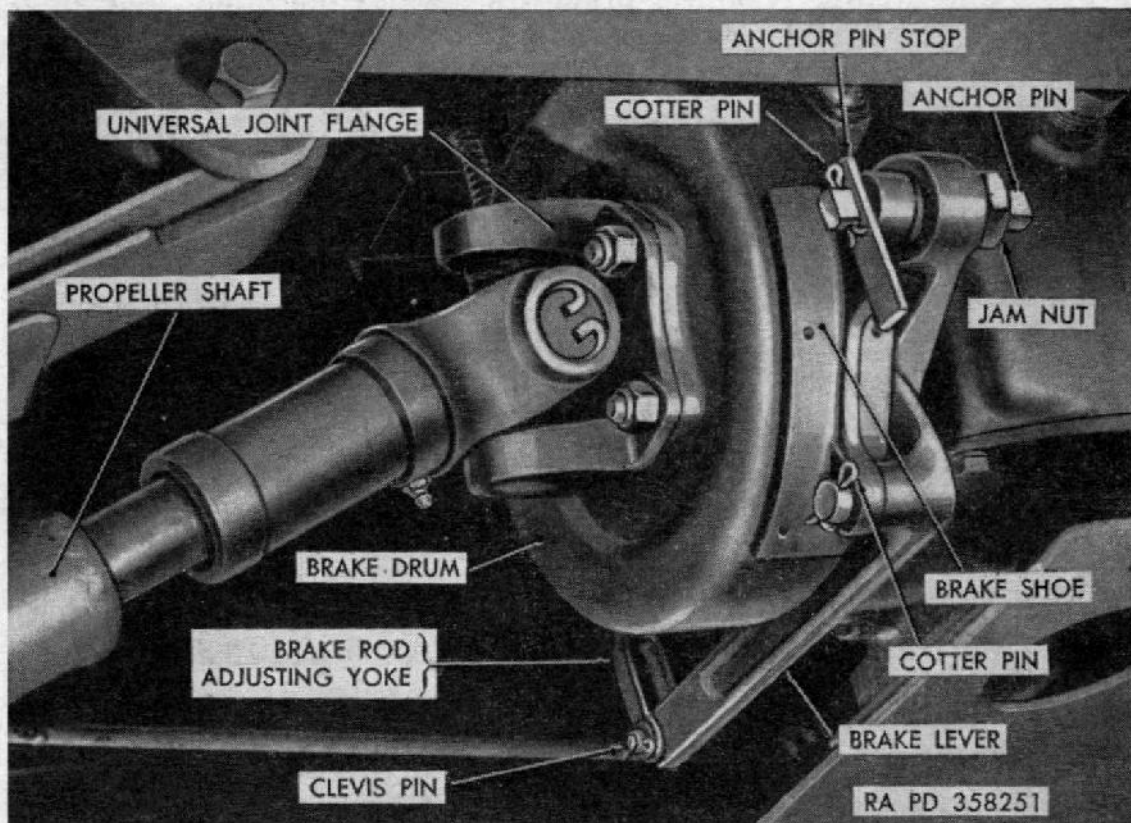

Figure 115. Parking brake installed.
(fig. 115)
### *b. Brake Shoes* (fig. 115).
- (1) *Removal.* Remove brake shoes (*b* above). Remove four safety nuts attaching universal joint flange (fig. 115) and lower propeller shaft to floor. Remove cotter pin, nut, and flat washer from transfer output shaft and remove companion flange and brake drum.
- (2) *Installation.* Position brake drum and companion flange on transfer output shaft and secure with flat washer, and cotter pin. Lift propeller shaft with universal joint flange attached and position on brake drum, making sure that cap screws are installed through companion flange, brake drum, and universal joint flange. Install safety nuts on cap screws to secure these items. Install brake shoes (*b* above).